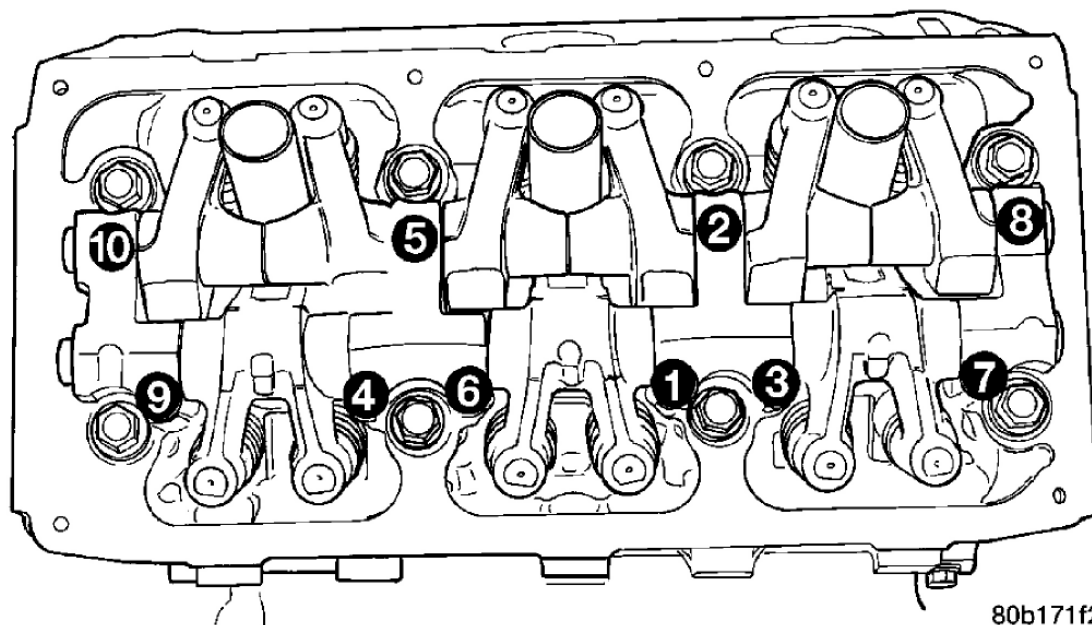

Fig. 155: ROCKER ARM AND CAMSHAFT ASSEMBLY
3. Tighten rocker arm/shaft assembly bolts in sequence to 31 N.m (275 in. lbs.). See Fig. 155.